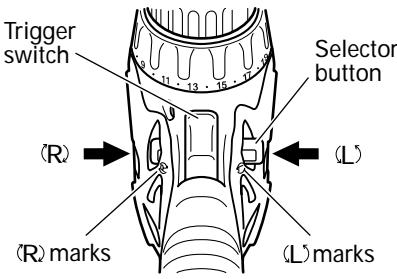

Fig. 13
The bit rotates clockwise (viewed from the rear side) by pushing the R-side of the selector button. The L-side of the selector button is pushed to turn the bit counterclockwise (See Fig. 13). (The (R) and (L) marks are provided on the body.)